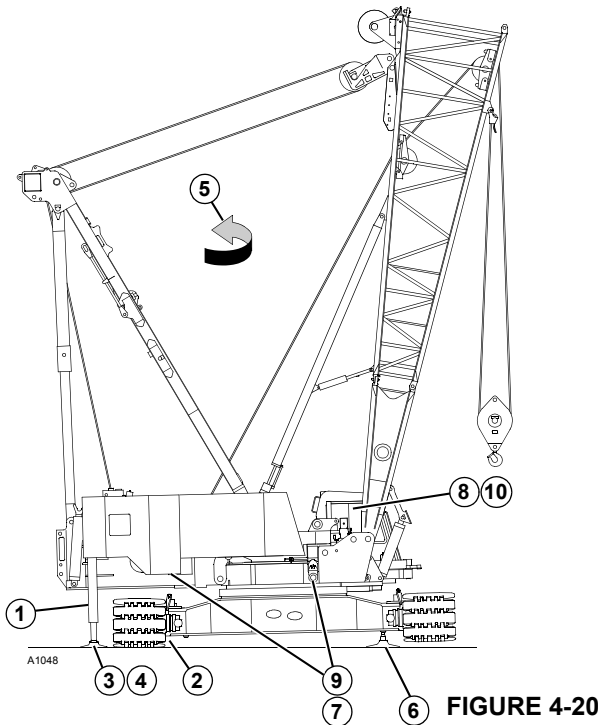

FIGURE 4-20
3. Swing the rear of the rotating bed so that it is positioned over the first crawler (Figure 4-20).
NOTE: The circled numbers in Figure 4-20 correspond to the numbers of the following steps.
3. Retract the rear jacks until the crawler is on the ground (Figure 4-20).